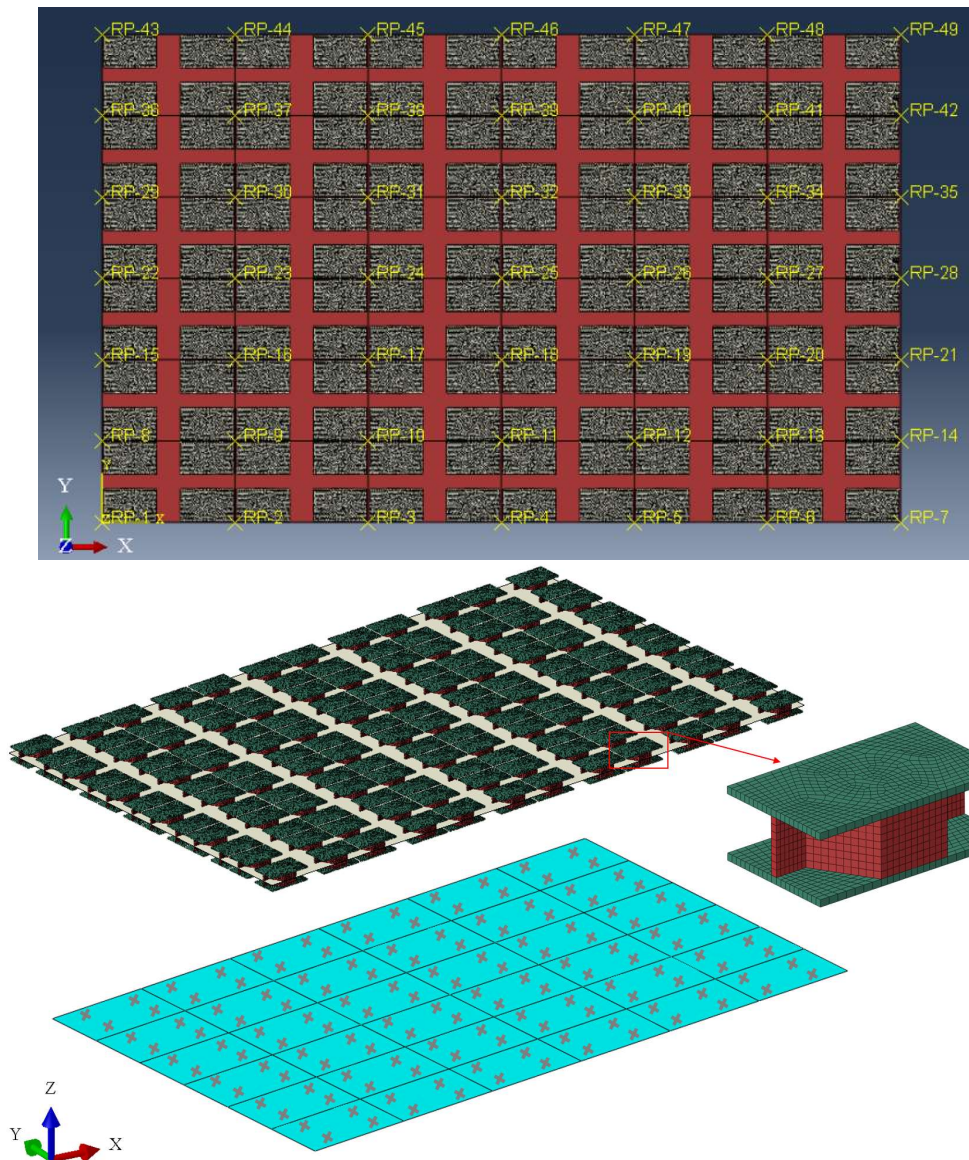

Fig.5 The Direct FE² model after constructing RVE
(17) Run the .py script generated in the previous step in ABAQUS. The Direct FE² model can be seen in the assembly as shown in Fig.5, corresponding to the macro-scale part.